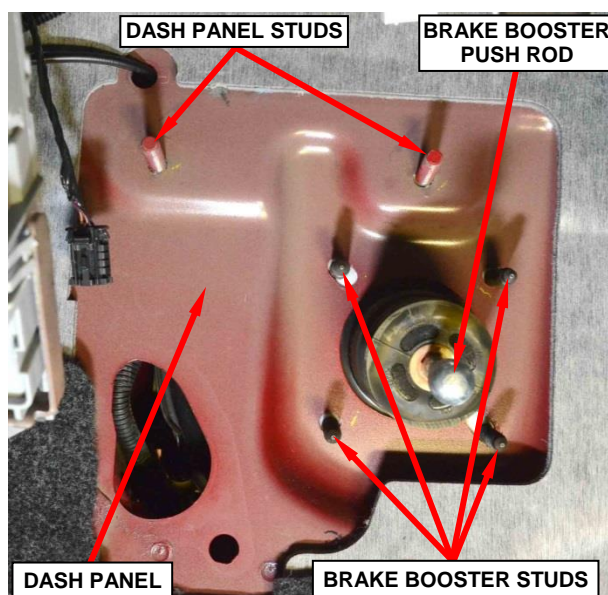

Figure 17 – Dash Panel Studs
- Align the NEW clutch/brake pedal assembly with the two mounting studs on the dash panel, then align the power brake booster mounting studs with the clutch/brake pedal assembly (Figure 17).